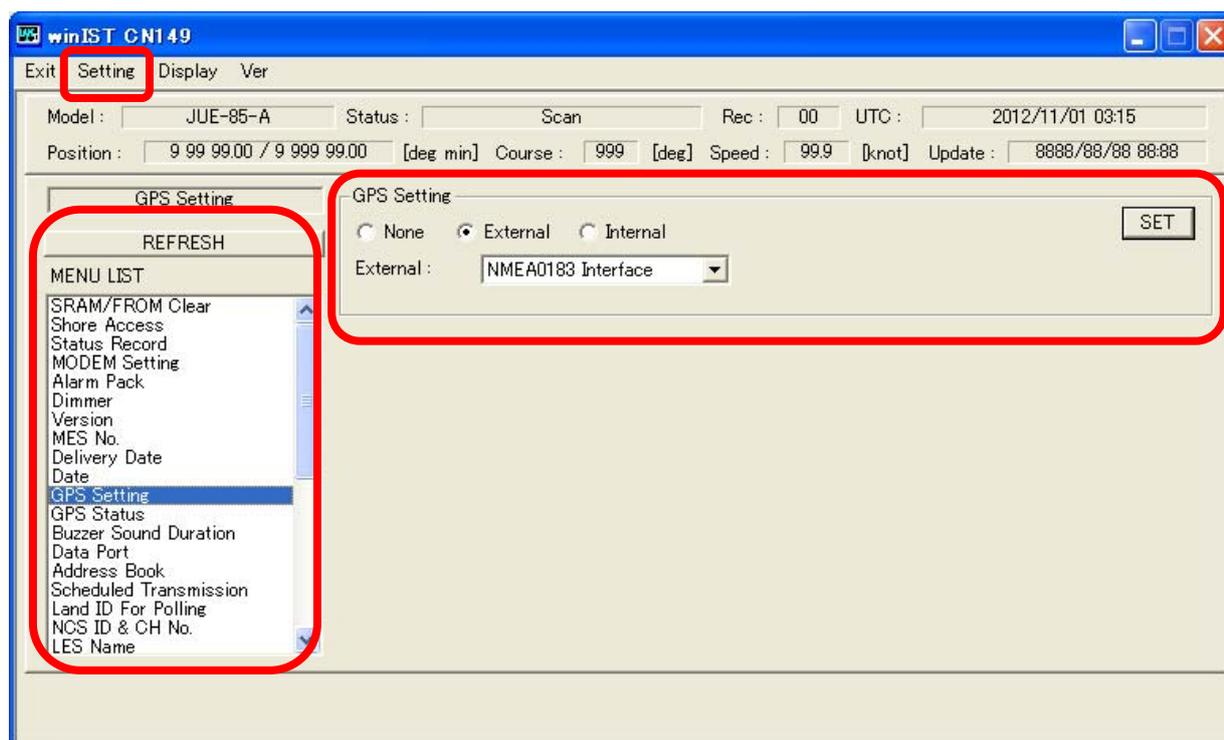

Fig. 4-12-1 [GPS Setting] screen
2. Operation except [Exit], [Display], and/or [Ver] is not possible while winIST is communicating with INMARSAT terminal(the function of **Fig. 4-12-1 [GPS Setting] screen** cannot be operated).
4. Operation except [Exit], [Display], and/or [Ver] is not possible while winIST is communicating with INMARSAT terminal(the function in the frame of **Fig. 4-12-1 [GPS Setting] screen** cannot be operated).